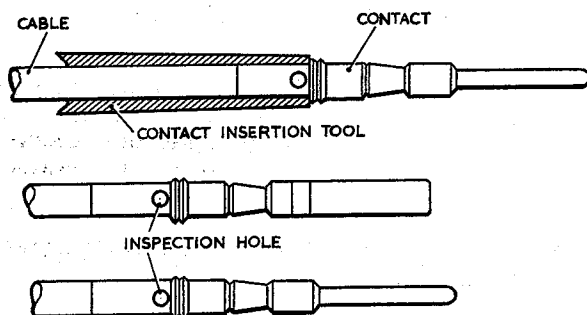

Fig. 10. Insertion detail
- (2) Drop contact into crimping tool and insert the prepared end of conductor into the back of the contact.
- (3) Depress the crimping tool lever, the crimping tool will not release until crimping cycle has been completed.
- (4) Check the inspection hole at contact end of crimp to ensure that the cable is correctly located. The depression allows check on length of conductor crimped fig. 10.
- (2) Apply insertion tool to crimped contact and cable ensuring that the end of the insertion tool is butted against the shoulder of the contact fig. 10.
- (3) Push the insertion tool, contact and cable straight into the rear face of connector insert cavity until the contact snaps into its retained position.